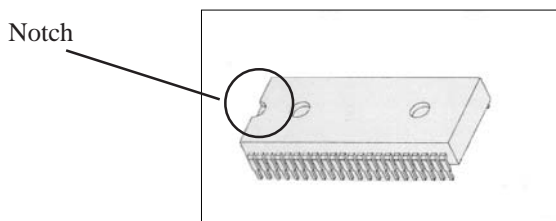

Figure 6. EPROM chip (Main board assembly).
- Take the new EPROM (ND01.06) and place it lightly on the chip socket, ensuring that the half-circle notch on the chip is positioned to the left (Figure 6). Align the pins of the chip with the insertion holes of the socket.